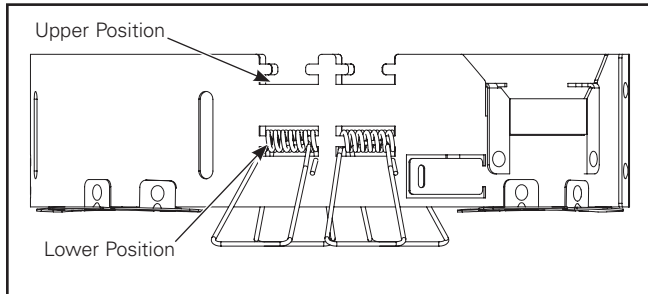

Figure 31.
5. Retrofit ring can be adapted to various ceiling thicknesses and plaster frame/housing heights by using different slot locations for mounting springs. HC8R/HC812R ships with springs in upper position for a combined ceiling and housing thickness greater than 1" and no more than 2". For ceiling/housing thicknesses between 0.5" and 1" mounting springs should be moved to lower position (Figure 31).